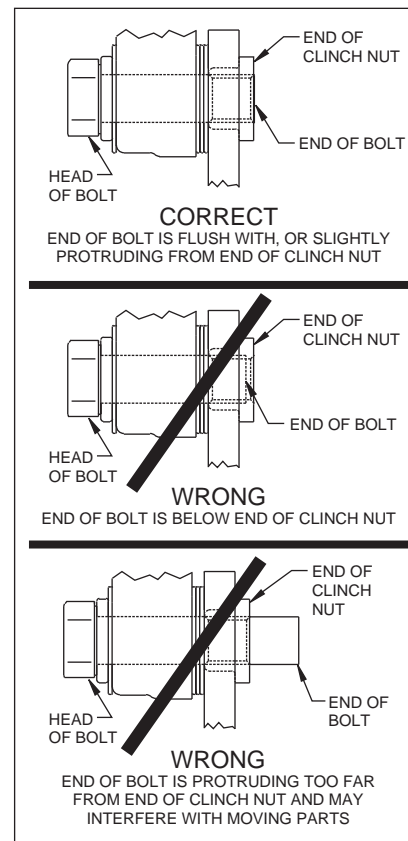

Figure 3.
- Install the o-ring (16) and the dust cap (15) onto the hub (6). Friction created by the o-ring (16) on the dust cap (15) keeps it from unscrewing on its own.
• **NOTE:** Please reference the caution statement at the beginning of the assembly instructions. This kit contains distinct right and left hand calipers that must be mounted in a specific direction, as described below. Mount the caliper (17) onto the caliper bracket (1) by positioning the mounting tabs on the backside of the bracket. Slide bolt (18) through washer (19) from the backside. Place two shims (20) between the caliper (17) mounting tabs and the caliper bracket (1) during initial installation. Finger tighten. Ensure that the caliper is mounted so the largest pistons are at the rotor exit end of the caliper, in relation to the direction of rotor rotation. View the rotor (10) through the top opening of the caliper (17). The rotor (10) should be aligned in the center of the caliper (17). If not, adjust the caliper (17) by using 0.032 inch thick shims (20) placed between the caliper mounting bracket (1) and the caliper (17). Add as many shim washers (20) as necessary to achieve the correct alignment. **NOTE:** The end of the bolt must be flush with or slightly protruding from the head of the clinch nut. See Figure 3. Place spare shims (20) between washer and caliper mounting ear to achieve the proper mounting fastener configuration. Always use the same amount of shims on both the top and bottom caliper mounting bolts (18). Finger tighten and recheck alignment. If everything is properly aligned, apply red *Loctite*® 271 to bracket bolt threads (2) and torque to 42 ft-lb as well as bracket bolt threads (4) and torque to 42 ft-lb. Then apply red *Loctite*® 271 to caliper mounting bolt threads (18) and torque to 40 ft-lb.
- Install the disc brake pads (21) and secure using the pad clip retainer (22).